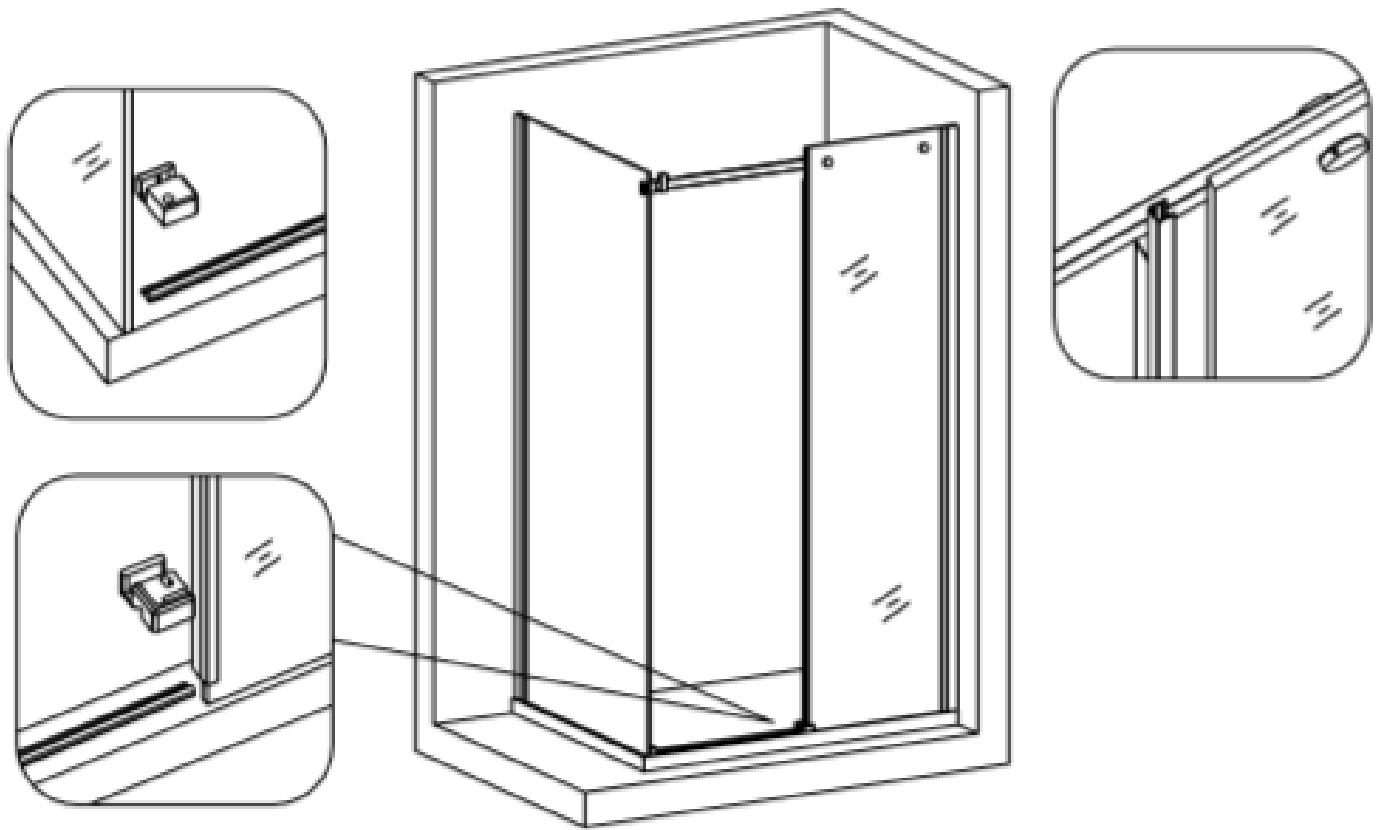

Fig 10
9. Insert the **bottom aluminum strip (19)** into the pot holes of **side navigational block (9)** and **middle navigational block (18)**. Install the **side anti-water strip (16)** on the fixed glass. (Fig 10)